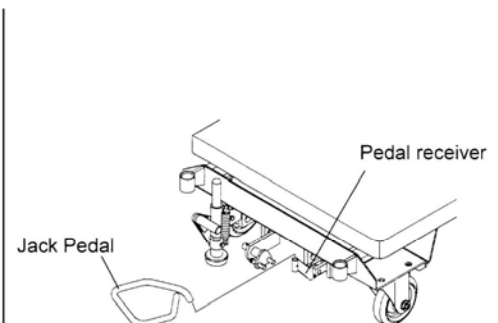

Figure 4
- Fig.4 Insert tapered end of jack pedal into pedal receiver.